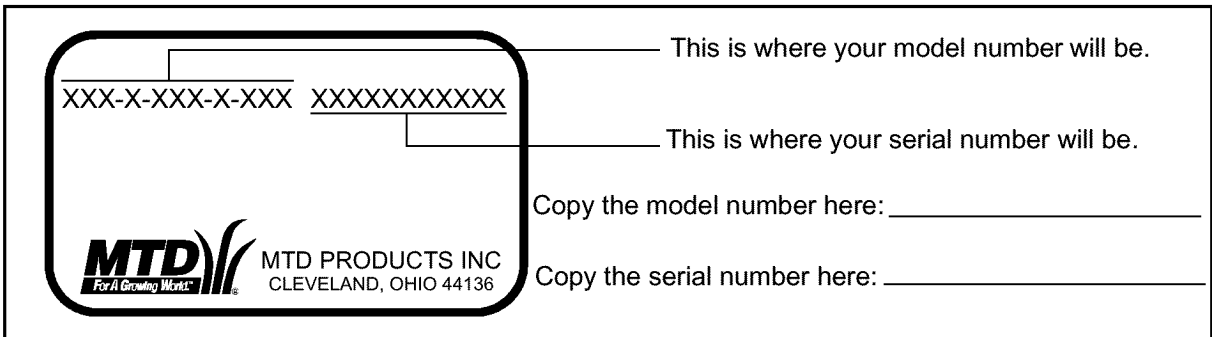

Figure 1
- Every chipper shredder has a model plate. You can locate it by standing behind the unit in the operating position and looking down at the frame next to the engine. See Figure 1.